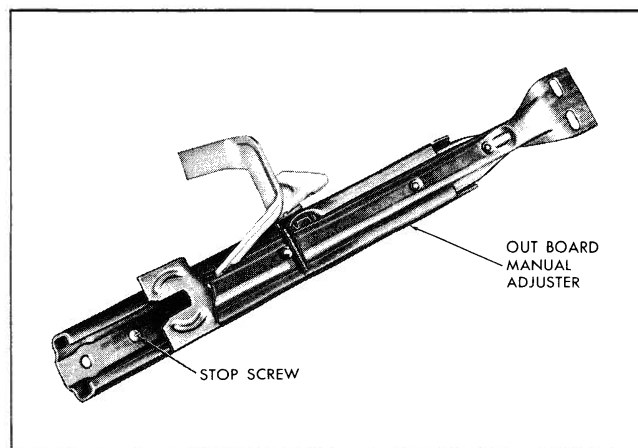

Fig. 23-4 Adjuster Mechanism
4. Operate outboard adjuster lower track rearward sufficiently to install stop screw at front of adjuster upper track (Fig. 23-4).
4. Operate outboard adjuster lower track forward sufficiently to install stop screw at rear of adjuster upper track (Fig. 23-4).